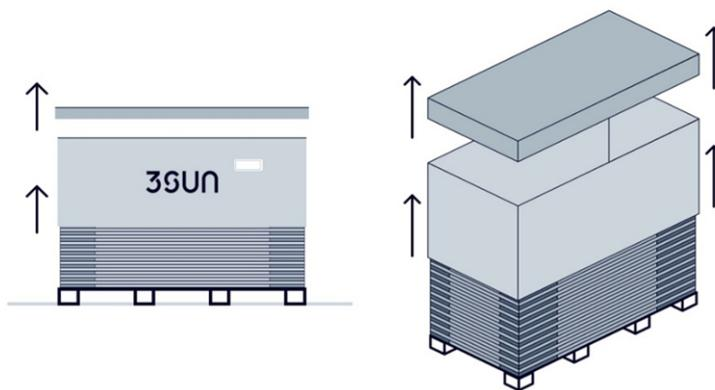

Figure 22: Removal of box cap and perimetral box.
- b) Remove the box cardboard cap and then the perimetral cardboard box (Figure 22).